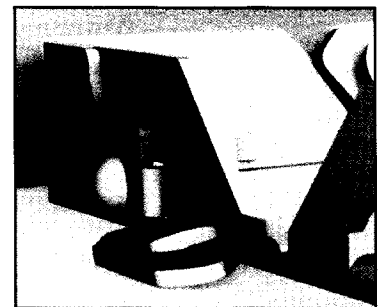

Figure 2
4. With remaining two sides, secure with anchor (by others) through hole in Easy Install Tabs (Figure 1), or fold over to secure to sheetrock (Figure 2).